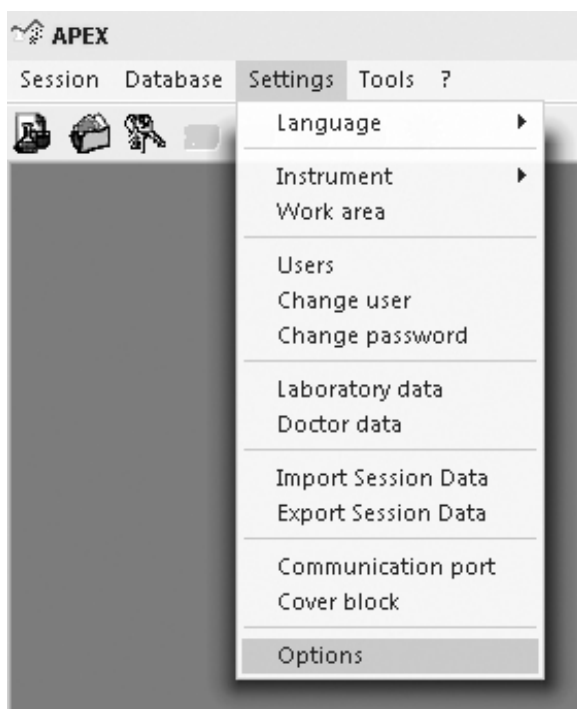

Fig. 116 – Options
- ❑ Low safety level: the session will start only after cover is closed but User can open the cover at any time during session (as in example shown in Fig. 116 below)